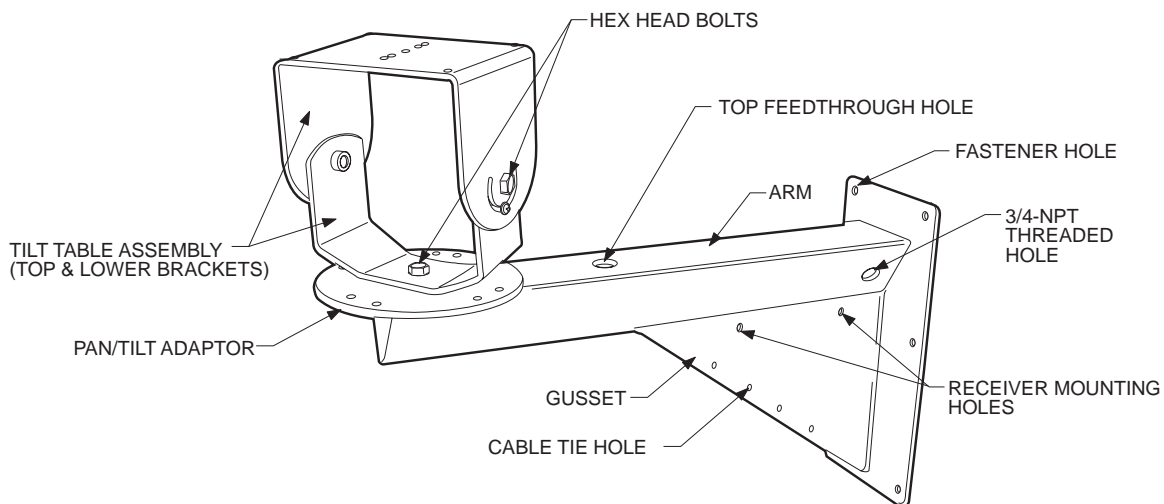

Figure 1. WM3026 Heavy-Duty Wall Mount
3. Use one of the following methods to prepare the wiring/cabling for power. Refer to Figure 1.
To install the camera and/or enclosure directly to the mount, refer to Figure 1 and do the following:
To install the pan/tilt, camera and/or enclosure directly to the mount, refer to Figure 1 and perform the following steps:
To mount a receiver to the gusset of the WM3026 refer to Figure 1 and do the following: